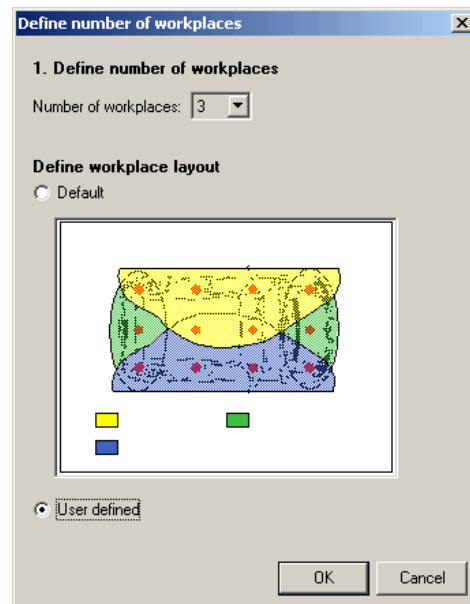

Figure 104: Example of a User-Defined Balancing Process
- 1) Specify the number of workplaces in the **Number of workplaces** dialog. There are three workplaces in the example. *Please refer to the Figure 104.*